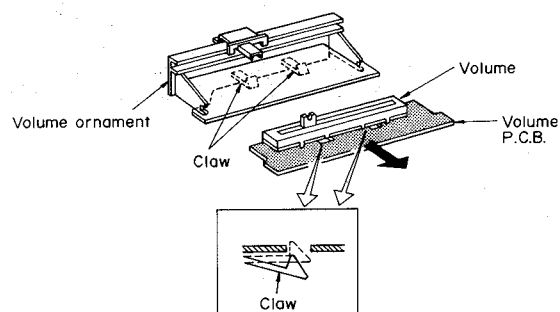

Fig. 17
3. The volume P.C.B. is secured with the 2 claws protected from the volume ornament. So, release the claws with a screwdriver, and pull out the volume P.C.B. as shown in Fig. 17.